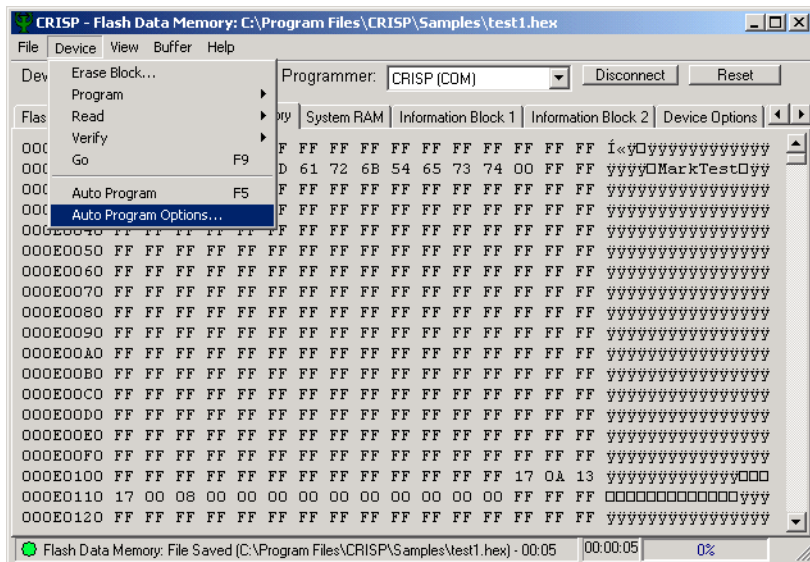

Figure 6-18. Selecting the Auto Program Options Command
1. **Enter Auto Program Options Mode.** Before Auto Program mode can be used, the operations to occur in this "single click" programming mode must be defined. To define these operations, select the Device -> Auto Program Options command, as shown in Figure 6-18.